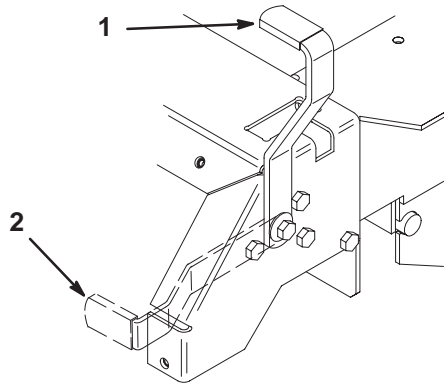

Figure 10
1. Move the motion control levers (Fig. 10) to the neutral lock position.
2. Pull back and up on the parking brake lever to set the parking brake (Fig. 10).
Push forward and down on the parking brake lever to release the parking brake (Fig. 10).